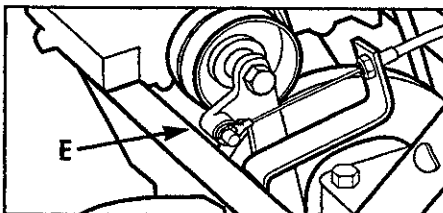

Figure 5-1A
- Lightly oil the shifting mechanism pivot points (E, Fig. 5-1A). Do not get oil on the belt or belt groove of the pulley.